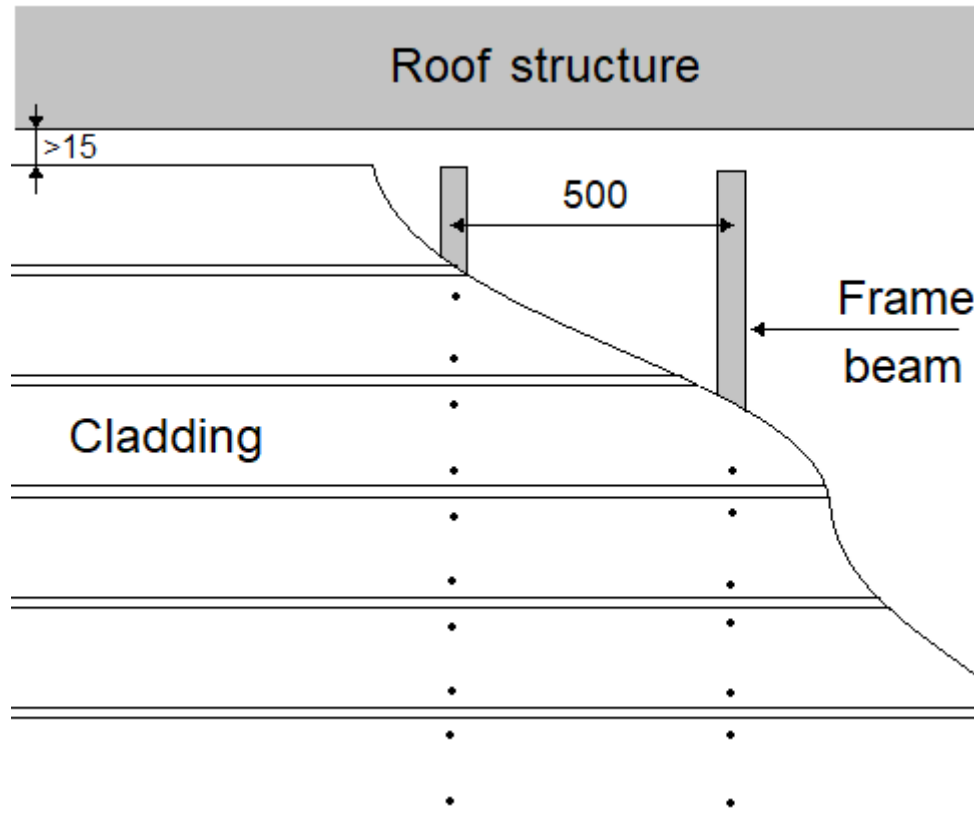

Figure 2. Horizontal installation scheme. All measurements are provided in millimeters.
2. The fastening points (spacing between furring strips) are placed 500 mm apart (see Figure 2).
5. A gap of at least 15 mm shall be left between the lower part of the roof and the siding for ventilation, through which air can move both behind the siding and under the roof (see Figure 2).